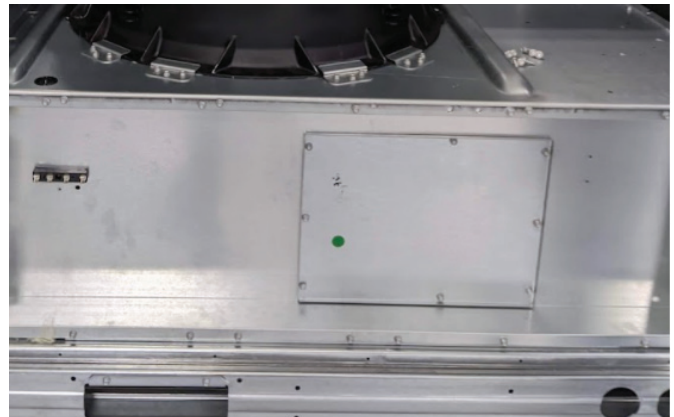

Fig. 10 — Heater Cover
1. Identify heater cover to remove. (See Fig. 10.) Remove heater cover and save cover and screws.
4. Fasten heater cover to heater module with 2 screws provided with heater. Flanges of cover must face out. (See Fig. 10.)